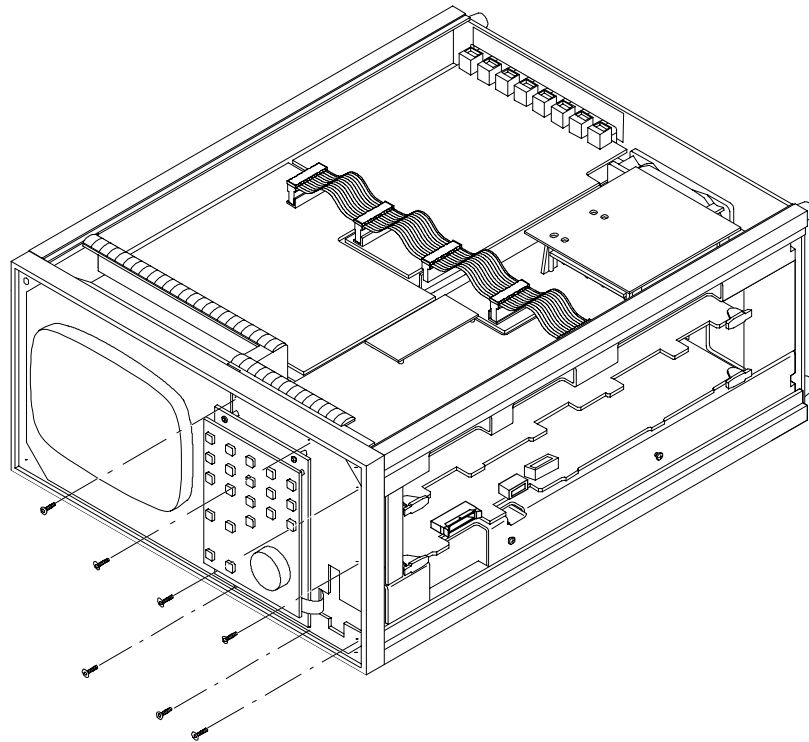

Figure 5: Removing the retaining screws from the Keypad board
- d. Install and tighten the flat-head screws that hold the Keypad board assembly bracket to the instrument front frame. See Figure 5 on page 10.